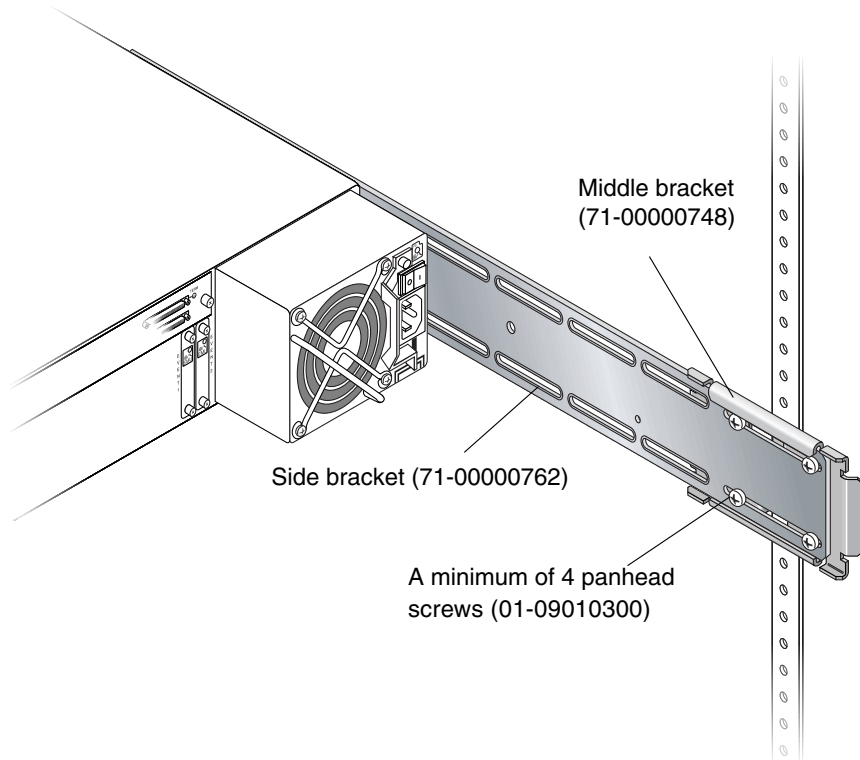

FIGURE 2-12 Middle and Side Brackets Assembled
- 8. Attach each side bracket to a middle bracket** (see FIGURE 2-12):